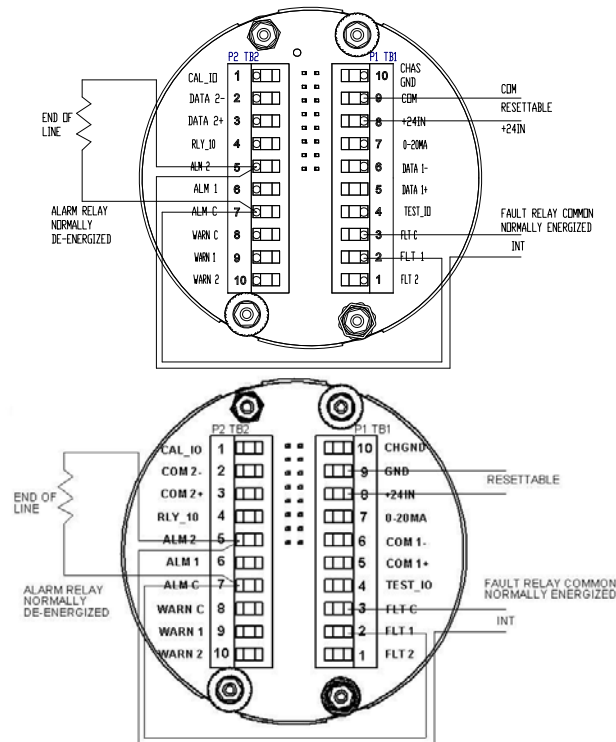

Figure 5: Field Terminations Showing Wiring for Fire Alarm Systems¹
1. Loosen the Setscrew (A) located on the Compression Cap (B) and unscrew the Compression Cap (B) until Optical Module Assembly is completely removed.
2. Loosen Captive Screw (H) located on the left side of the Junction Module Base (C), **DO NOT REMOVE IT COMPLETELY**. Lift and turn the Bracket Top Lock (D) ¼ turn clockwise to unlock.
3. Unscrew the Electronic Module Tube (E) approximately 9 turns. Remove and store in a safe area.
4. Unscrew Knurled Nuts (L).
5. Remove the Field Wiring Board assembly (F) by grasping it by the PCB Wiring Protector at the rear of the assembly (G) and gently pulling it forward, **DO NOT PULL ON THE ENTRY CUP (I) TO REMOVE THE ASSEMBLY, DAMAGE COULD OCCUR**. The Field Wiring Board assembly is connected to the Junction Module Base with a lanyard to prevent the unit from falling during the wiring process.
6. Wire the unit to the site-wiring following the connection diagram shown in Figure 5.